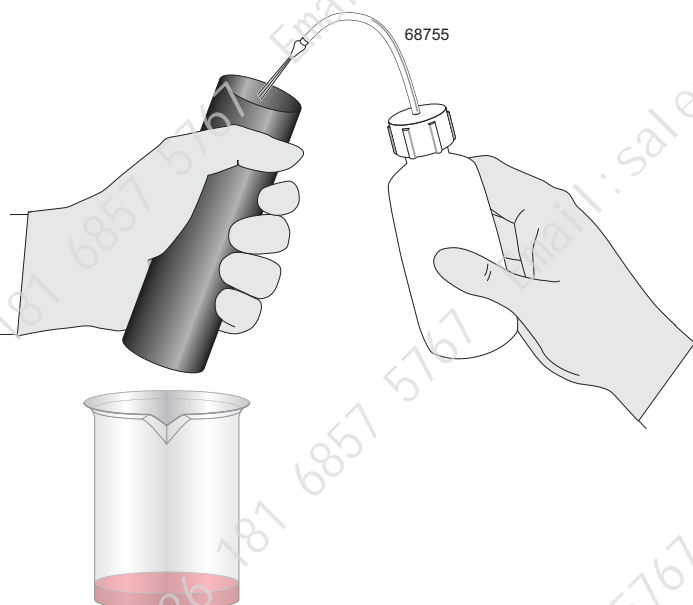

Figure 7. Clean the printhead cover tube
- 9 Remove any ink from the inside of the printhead cover tube with Linx food grade solvent 6600, as shown in Figure 7, and allow to dry.